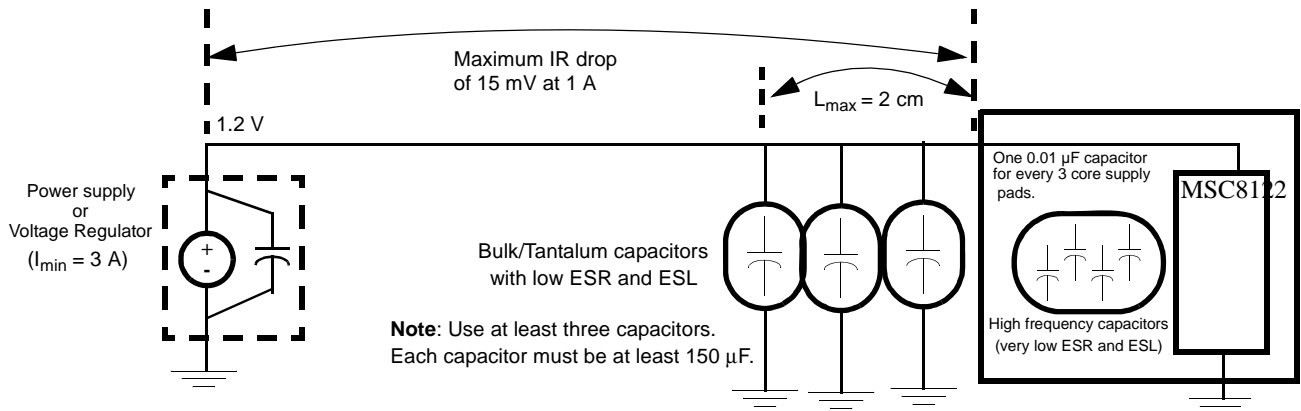

Figure 33. Core Power Supply Decoupling
Figure 33 shows the recommended power decoupling circuit for the core power supply. The voltage regulator and the decoupling capacitors should supply the required device current without any drop in voltage on the device pins. The voltage on the package pins should not drop below the minimum specified voltage level even for a very short spikes. This can be achieved by using the following guidelines:
- Decouple the supply using low-ESR capacitors mounted as close as possible to the socket. **Figure 33** shows three capacitors in parallel to reduce the resistance. Three capacitors is a recommended minimum number. If possible, mount at least one of the capacitors directly below the MSC8126 device.